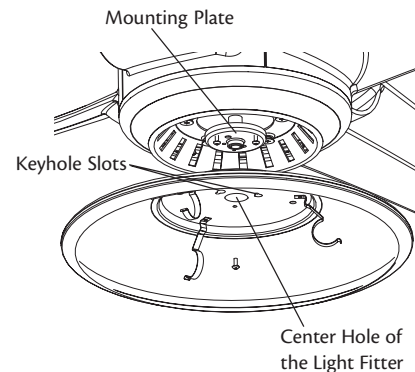

Figure 20 - Attaching the light fitter
1. Partially install two #6-32 x 3/8" assembly screws into the mounting plate as shown in Figure 20.
4. Turn the light fitter counterclockwise until the assembly screws are firmly situated in the narrow end of the keyhole slots as shown in Figure 20. Install the one remaining #6-32 x 3/8" assembly screw into the third hole in the light fitter. Tighten all three screws firmly.